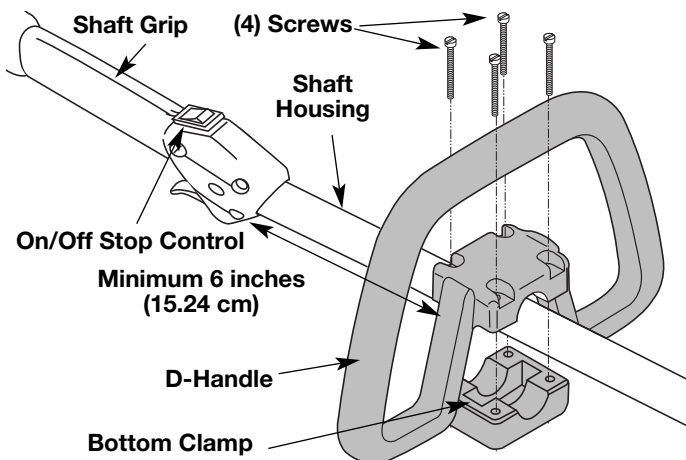

Fig. 1
2. Place D-handle the over the shaft housing and onto the bottom clamp (Fig. 1). Place it a minimum of 6 inches (15.24 cm) from the end of the shaft grip.